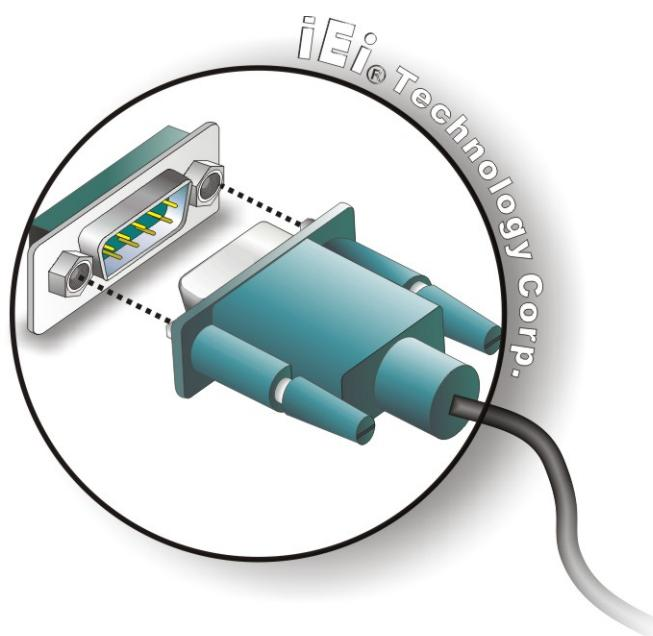

Figure 4-20: Serial Device Connector
Step 2: Insert the serial connector. Insert the DB-9 connector of a serial device into the DB-9 connector on the external peripheral interface. See Figure 4-20.